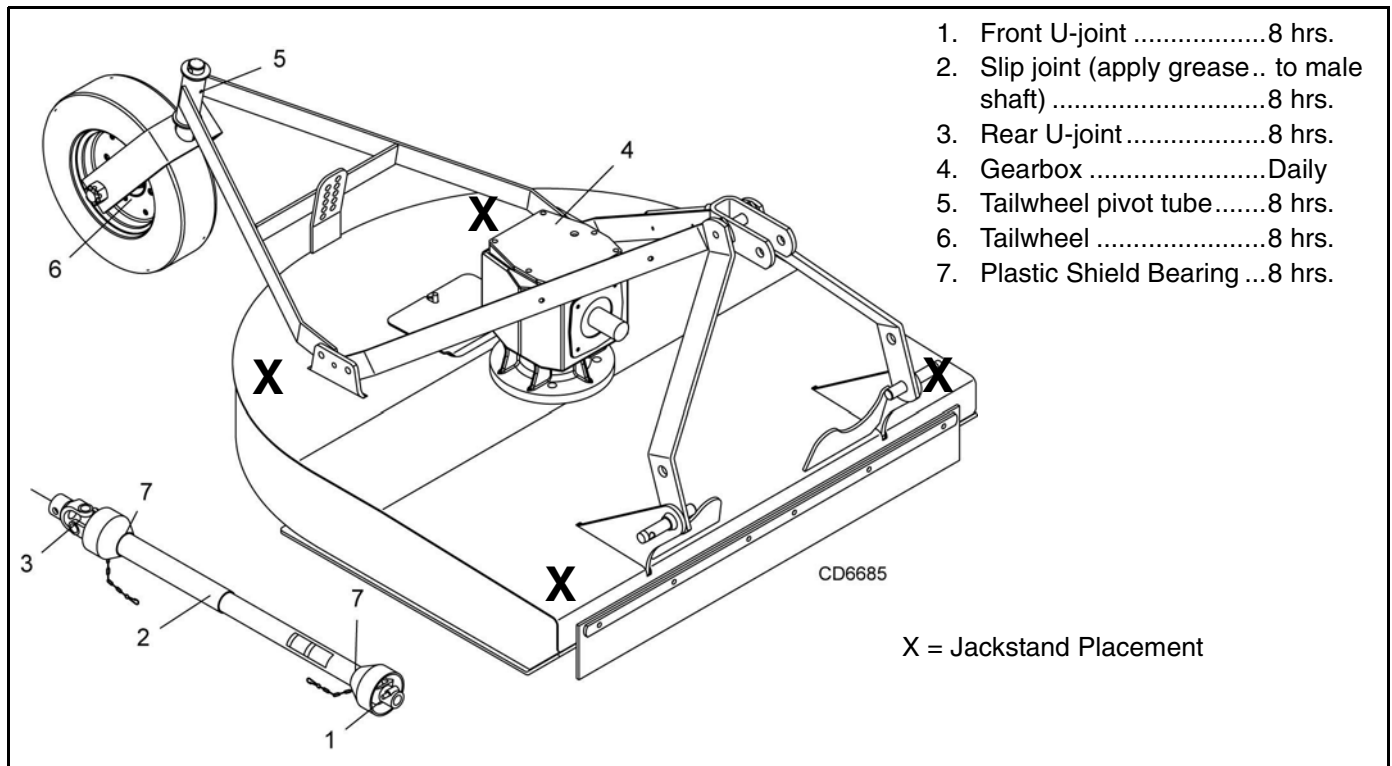

Figure 7. Jackstand Placement and Lubrication Points
1. Jackstands with a load rating of 1000 lbs. or more are the only approved blocking device for this cutter. Install a minimum of four jackstands, two in front and two in rear (refer to Xs in Figure 7) under the cutter before working underneath unit.
2. See Figure 7 for lubrication points and frequency of lubrication based on normal operating conditions. Severe or unusual conditions may require more frequent lubrication.
2. Raise cutter and block securely (see Figure 7).
3. Open blade access cover and align crossbar (43) with blade access hole in the cutter frame. Remove nut (46) and lock washer (45) using a 1-11/16" socket. Carefully drive blade pin (28) out of crossbar.